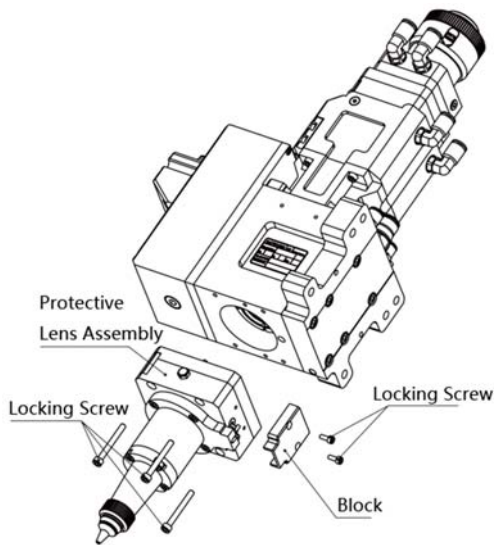

Figure 5.7 – Remove the screws
- Place the laser head horizontally, and remove the locking screws from bottom to top (see Figure 5.7);
- Assemble the laser head according to Figure 5.7, and tighten the screws;